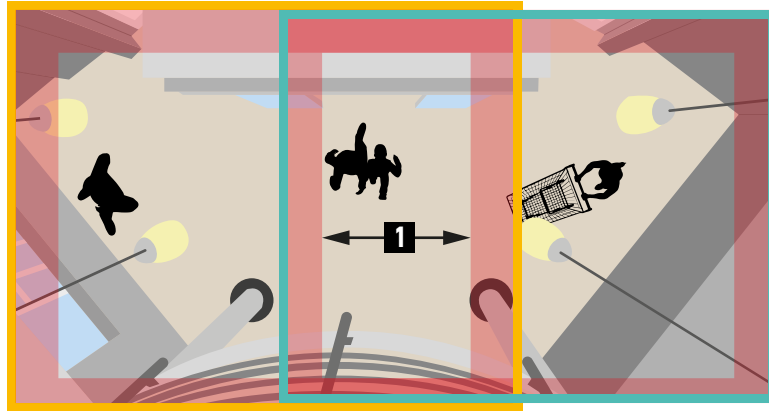

Fig. 63: Overlapping of areas
- For the selection of the installation site it is important that the monitored areas of the individual devices overlap by at least 100 cm or 3.3 ft (Fig. 63 /1).